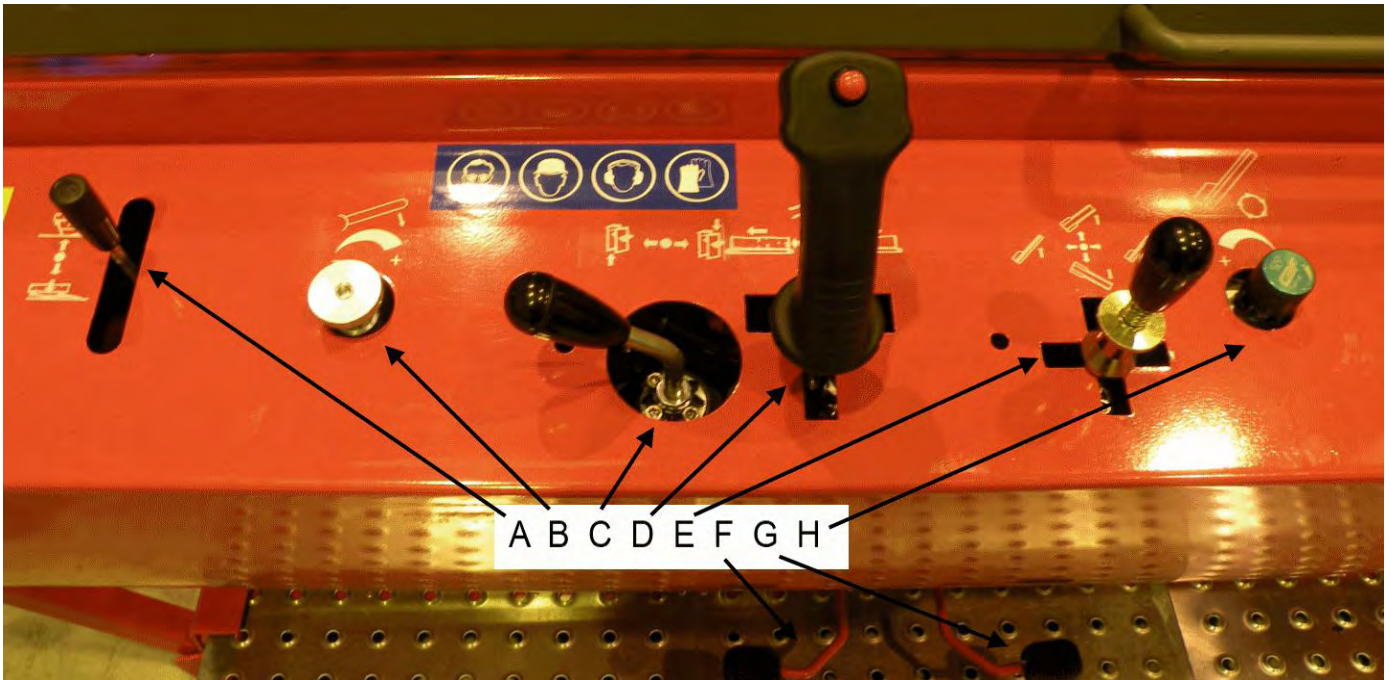
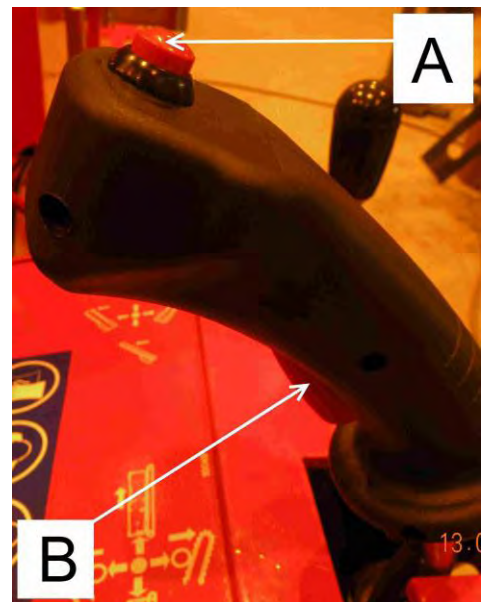

Figure 9. The machine's controls
Figure 10. Joystick
2. Use the control H in Figure 9 of Section 3.2 (anti-clockwise) to make sure that the conveyor is stopped, and start the machine.
3. Keep the lock A open, and move the control E in Figure 9 of Section 3.2 to the right to hydraulically lower the output conveyor to its lowest position.
1. Use the control H in Figure 9 of Section 3.2 to stop the conveyor.
2. Release the lock D holding the upper section of the conveyor in place, and hydraulically lower the conveyor to the lowest position with the operating lever E in Figure 9.
Names and functions of the controls in Figure 9
- Wood press: button A in Figure 10
- Blade chain activation: button B in Figure 10
The output conveyor can be controlled with the controls E and H in Figure 9. Use the control E to select the direction and elevation of the conveyor. The control H can be used to freely adjust the running speed of the conveyor. The speed can be decreased until the conveyor stops. Always stop the conveyor when placing it in the operating or transport position.
The splitting blade can be controlled hydraulically by moving the control lever C in Figure 9 up or down. Logs should always be as centred as possible when passing the blade in order to keep the size of the firewood consistent.
6. Start the cutting motion with the joystick D in Figure 9. The cutting motion must be normal when the blade returns up.
- a. Use the joystick D in Figure 9 to perform a few sawing motions without sawing any actual wood.
8. In especially cold weather, the cutting motion can be slow at first. If this is the case, repeat the motion with the splitting pedal (Figure 9, pedal G), until the oil warms up and the speed returns to normal.
9. Ensure that pressing the button A of the joystick in Figure 10 releases the wood press and that pressing the button B of the joystick starts the blade chain.
10. Start the splitting motion with the splitting pedal (Figure 9, pedal G), and stop it by opening the guard of the cutting and splitting section.
11. Ensure that the splitting beam returns to the initial position by holding down the pedal F (Figure 9).
12. Start the splitting motion by briefly pressing the pedal G (Figure 9).
13. Test run the input conveyor's feed and return motion with the joystick D in Figure 9.
14. Test run the lifting motion of the hydraulic wood press by moving the joystick D in Figure 9 forward and, at the same time, pressing the joystick button A (Figure 10).
15. Start the output conveyor by using the control H in Figure 9 to adjust the speed to an appropriate level.
The input conveyor feeds the wood to be processed into the splitter. Push the joystick D in Figure 9 of Section 3.2 to the upper right to feed wood into the machine. The feed can be cancelled by pushing the joystick to the upper left.
2. Raise the hydraulic wood press by pressing down the button A (Figure 10) of the joystick D (Figure 9) and by pushing the control lever forwards. Use the joystick D to feed wood into the machine with the input conveyor. Moving the joystick to the upper right activates the feed. The optical measuring device stops the conveyor when the desired length has been fed.
3. When the log stops, lock it in place with the wood press. The wood press is activated automatically when you lower the cutting flange with the joystick D in Figure 9 (also in Figure 10).
4. Cut the log by pressing the button B (Figure 10) of the joystick D. The button activates the blade chain. Then, lower the cutting flange by moving the joystick D backwards.
Ensure that the cutting flange's downward motion has not been adjusted (flow valve B in Figure 9 of Section 3.2) to be too fast in proportion to the size of the wood.